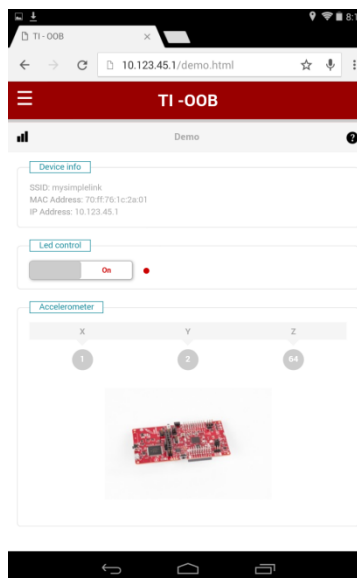

Figure 21. Demo Web Page
- Explicitly type demo.html as the requested resource on the browser URL, demo.html must be prefixed by the CC3220 IP address (see Figure 21).
Figure 21 shows device information, status of the onboard red LED (D7), and periodic accelerometer readings, together with the equivalent 2D image of the CC3220 LaunchPad board.